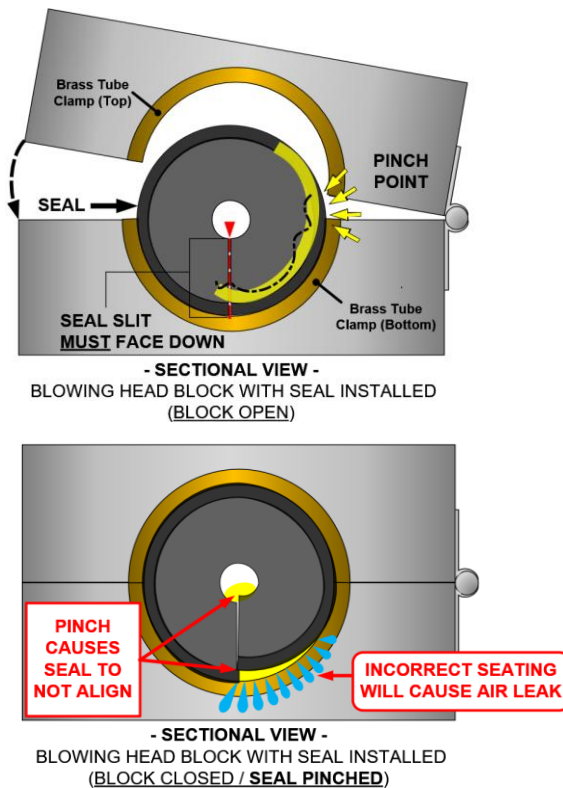

Figure 5 - (Example) - Pinched Air Seal
7.4.1 A leaking Air Seal can be caused while closing the block; This may occur when the inside edge of the block pinches or grabs onto the seal causing it to push inward and down which can misalign the seating of the seal. **See Fig. 5 - (1 & 2)**